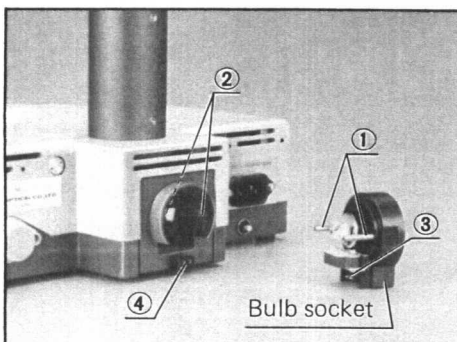

Fig. 8
4) Align the guide pins ① with the guide holes ②, and insert the plug ③ into the receptacle ④ all the way without tilting the bulb socket. (Fig. 8)